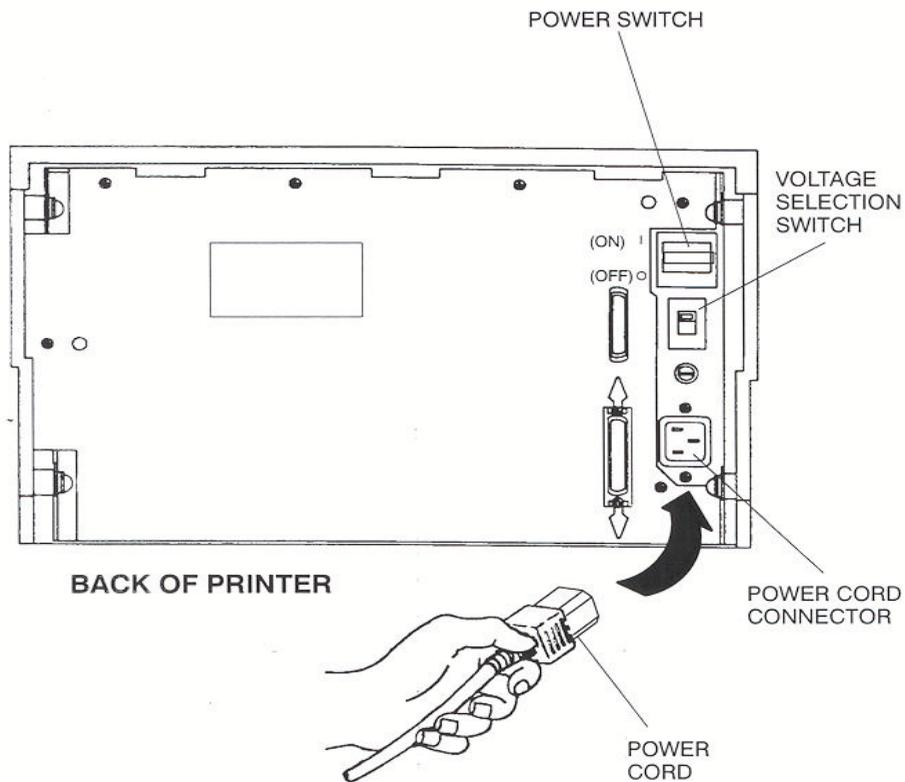

Figure 1-4: Install Power Cord
1. Set the power switch to Off. (See Figure 1-4).
2. Install the power cord into the printer as shown in Figure 1-4.
3. Verify that voltage setting is correct for the application (115V-U.S.) (See Figure 1-4).